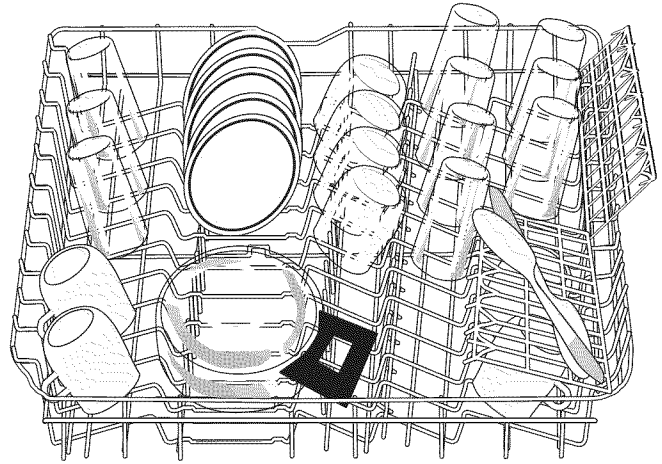

Figure 4. Upper Rack Using Flip-Down Shelf
- The Thermador® dishwashers have a special feature incorporated into the flip-down cup shelves on the side of the upper rack, as shown in Figure 4. The ends of these shelves are specially formed to help maintain spacing between stemmed glasses. When in the flipped down position, long-stemmed glasses may be placed in the second row from the edge and placed so their stems rest in the "V" formed ends of the shelves. When the cup shelves are in the up position long stemmed glasses may be placed in the first row with their stems placed to rest between the tooth like projections of the shelves.